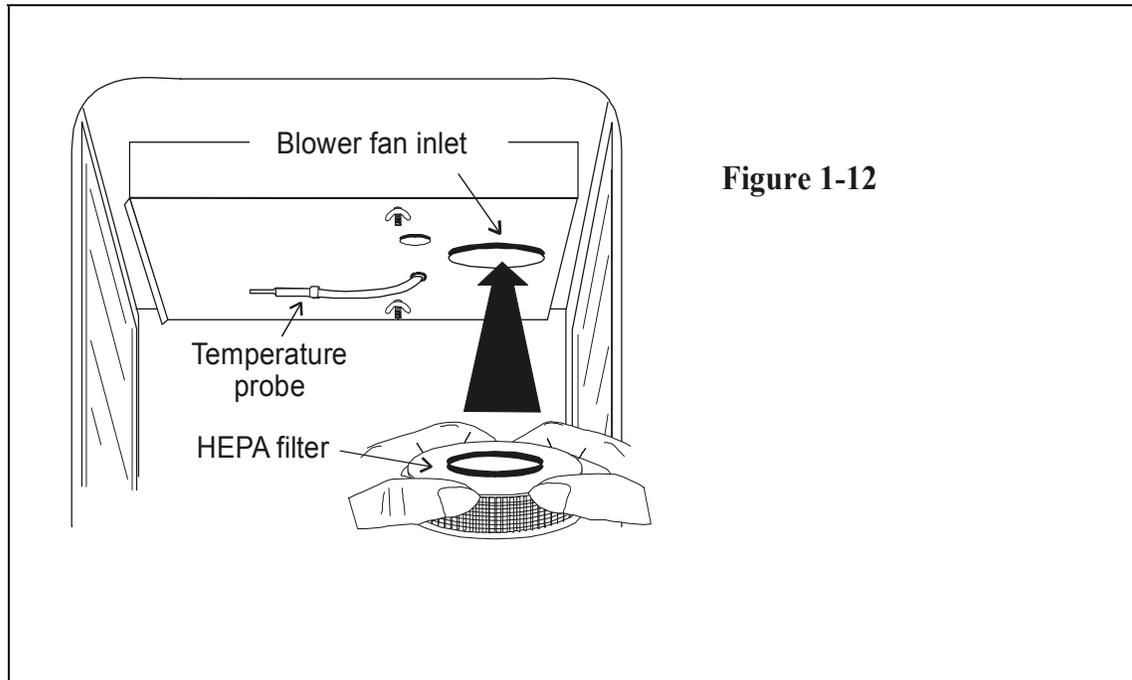

Figure 1-12
- Install the filter as shown in Figure 1-12.